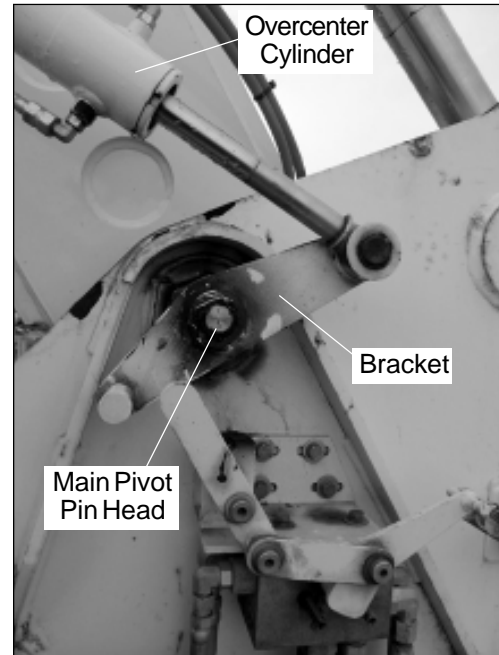

Figure 1 — Components
5. Remove the snap ring holding the overcenter cylinder on the pin attached to the main pivot pin head (refer to Figure 1). Remove the snap ring on the other end of the overcenter cylinder. Remove the overcenter cylinder.